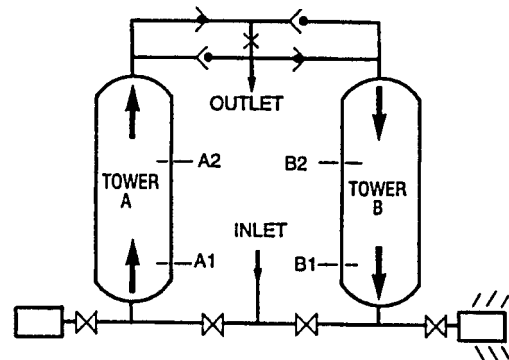

FIGURE 1C
1.2.2 Optional Automatic Purge Saving System (Refer to Figure 1C)